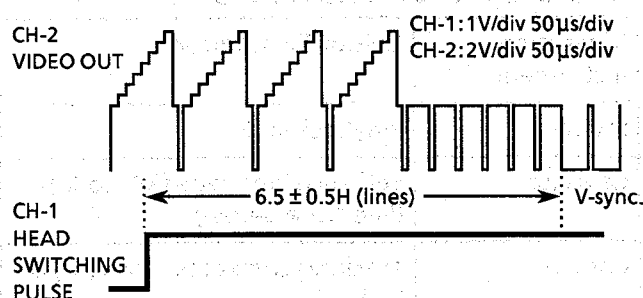

Figure 5-3.
2. Make for a moment short-circuit between TEST jumpers 3 and 4 located on the timer PWB. Be sure that all the fluorescent display tubes light up into the TEST mode. (See Note below ①)
7. Make this checking of waveform on the oscilloscope screen be as shown in Figure 5-3. just after the head switching point have been adjusted.